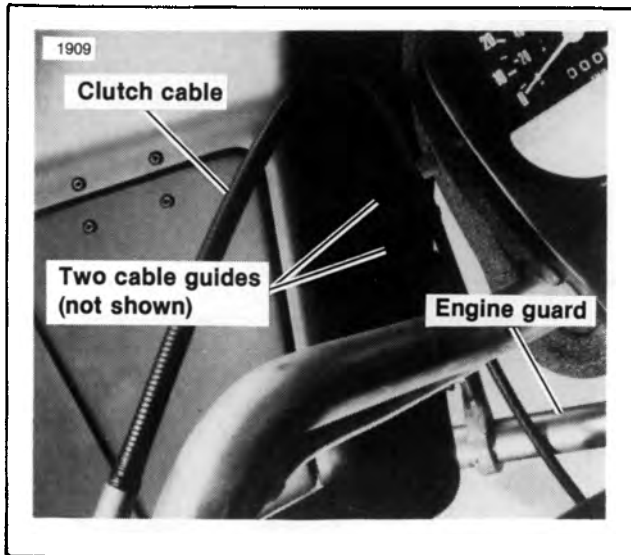

Figure 2-98. Clutch Cable Routing — FLT
2. See Figures 2-98, 2-99. On FLT models route the cable down the left side between instrument panel and fairing, through the cable guide on the engine. Keep cable behind highway bar and on left side of engine. Attach cable to cable clamp at crankcase (under horn). Install spring to protect cable from heat and chafing at rear cylinder. (See Figure 2-98.)